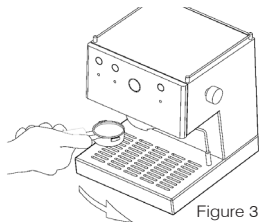

Figure 3
5. Attach the filter holder **7** to the group and **8** turn from left to right, exerting sufficient pressure at the end. (See figure 3).